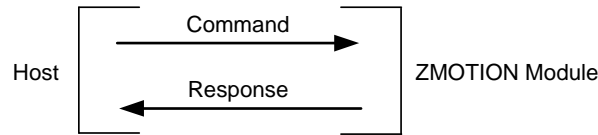

Figure 5. Read Command Structure
- When a Read command is received, the Module returns the applicable value, as described in the Serial Commands section on page 15. See the example in Figure 5.